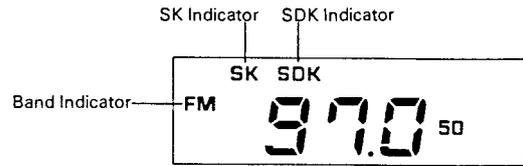

Fig. 15
1. Push Radio Power Switch ②. Press Band Select Button ⑬ and Digital Display ⑤ will illuminate to indicate FM. (Fig. 15)
2. Press SDK Switch ⑩ and Digital Display will illuminate. Press Tuning Button ① to receive traffic information broadcasts for the area through which you are driving. The SK indicator will illuminate when a signal is received.
3. The volume will become louder when a traffic information announcement is received during a broadcast. Volume cannot be lowered by turning the Volume Control ② to the left.
4. As the traffic information broadcast signal weakens, and you reach an area where the signal cannot be picked up at all, the SK Indicator will go out, indicating that traffic information can no longer be monitored. If this situation persists for more than 30 seconds, an alarm will beep to alert the driver. In such a case, either receive another traffic information broadcast station, turn the SDK Switch ⑩ off, or switch to the MW or LW band by pushing the Band Select Button ⑬.